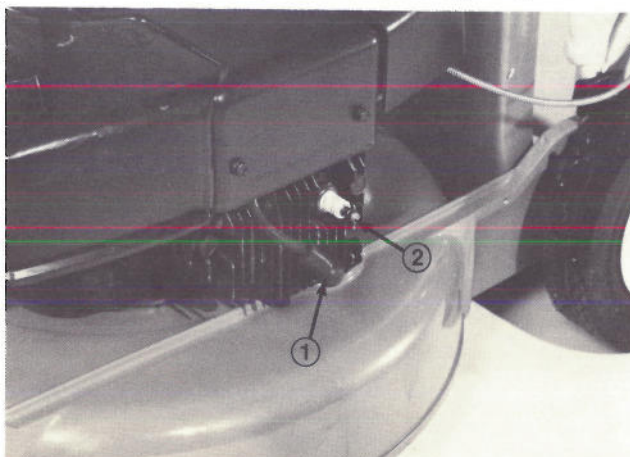

Figure 31
2. Clean area around spark plug so foreign matter does not fall into cylinder when plug is removed. Remove plug from cylinder head (Fig. 31).